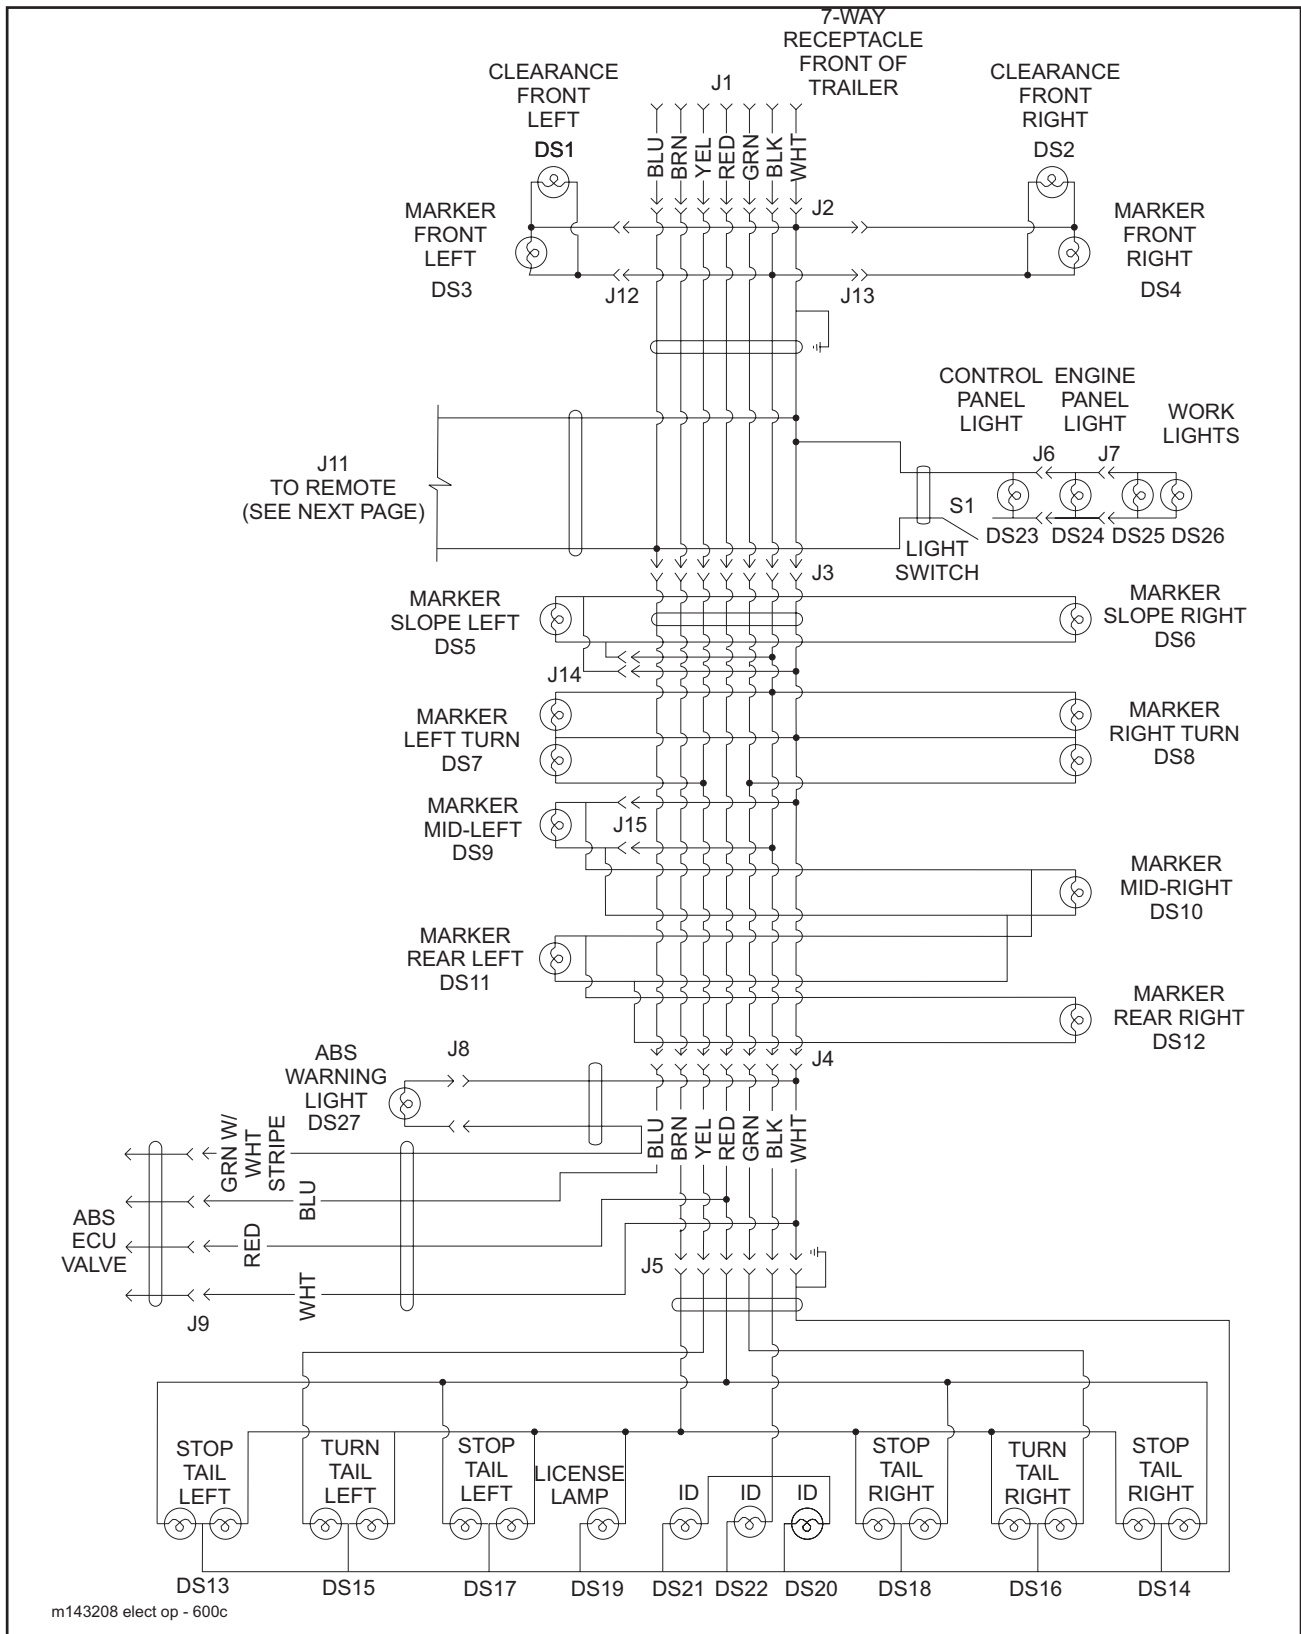

Figure 4-5 600C Wiring Diagram
- 4-5.1** Maintenance of the electrical system consists of inspection and minor servicing. Any wire, connection or electrical component showing signs of corrosion, wear, breakage or unraveling must be repaired or replaced. (See Figures 4-5 and 4-6 for electrical wiring diagrams and Table 4-4 for wiring parts list)